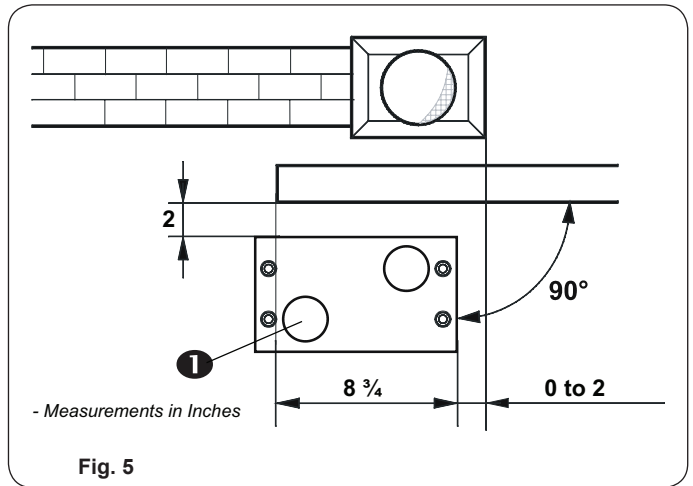
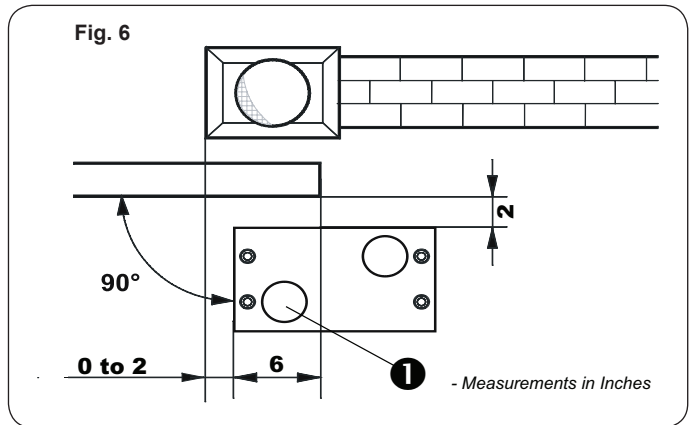
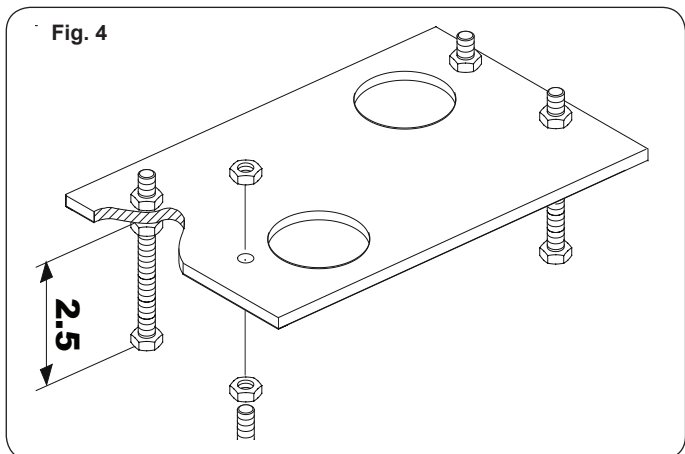

Fig. 5
Fig. 6
Fig. 4
1. Assemble the foundation plate as shown in Fig 4. The foundation plate must be located as shown in Fig 5 (right closing) or Fig 6 (left closing) to ensure that the rack and pinion mesh correctly.
4. After the concrete is poured in the forms and before it has a chance to set, insert the foundation plate into the cement and position it flush with the top of the concrete and aligned with the top of the lower gate frame. Use the dimensions shown in Figs 5 or 6 to align your foundation plate. Allow the concrete to set for a minimum of two days before installing the operator.